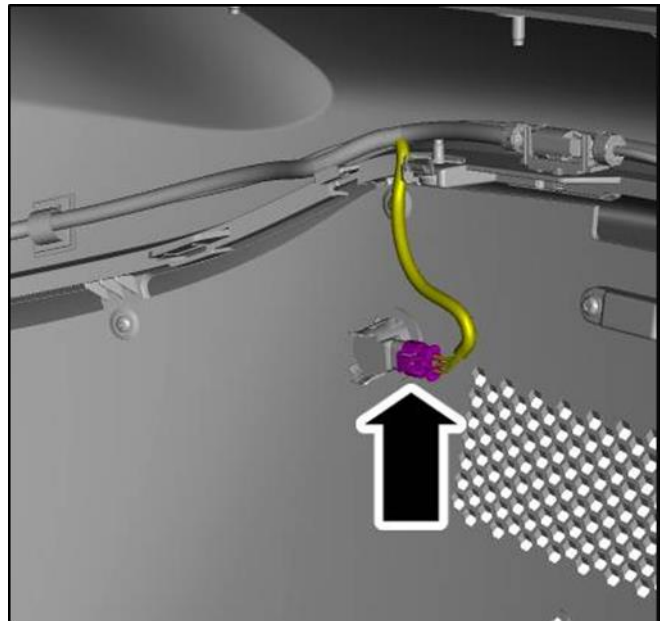
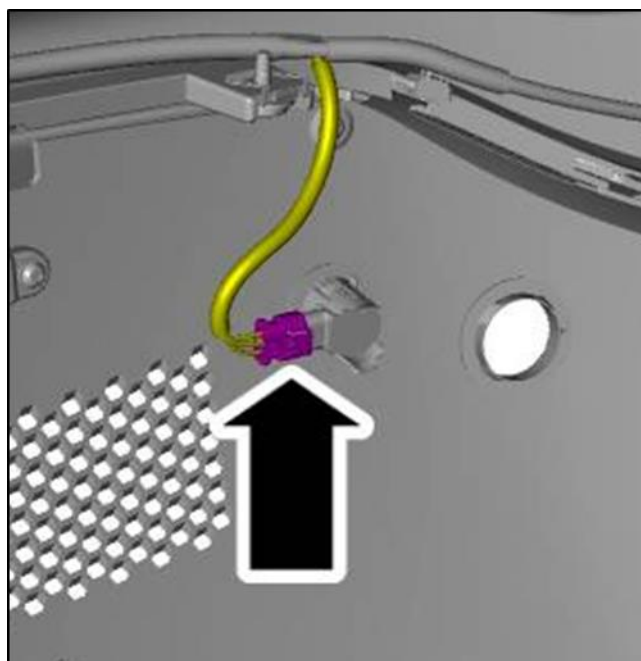

Figure 9
Figure 10
11. Connect the electrical connectors to the two inboard parking sensors in the front of the vehicle. (Refer to Figure 9 and Figure 10.)